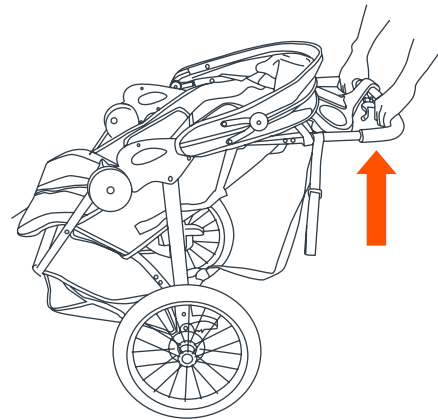

Fig. 19b
• Lift up on the stroller handle with both hands until the stroller frame is erected and locked in the open position (Fig. 19b). The stroller has spring-loaded latches on both sides of the frame. Test that both latches are fully engaged prior to placing your child in the stroller.